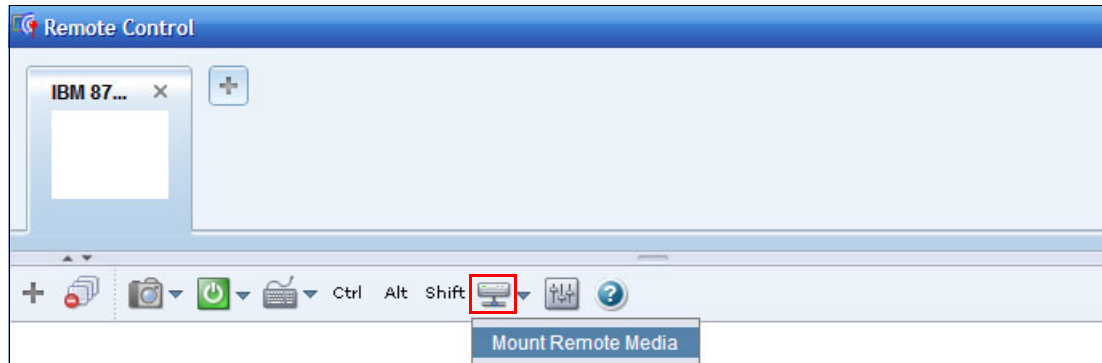

Figure 7-60 Remote Control toolbar
5. The Remote Control toolbar (Figure 7-60) offers functions, such as screen capture, compute node power controls, defining custom key sequences, sticky keys, mounting media, and Remote Control preferences. Click the **Mount Media** icon and select **Mount Remote Media**.